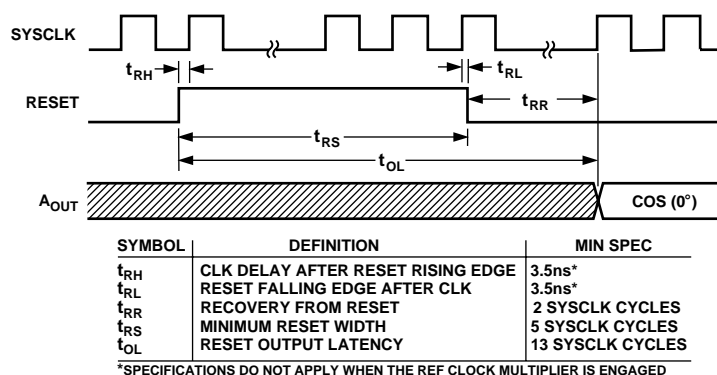

Figure 14. Master Reset Timing Sequence
**Results of Reset, Figure 14**